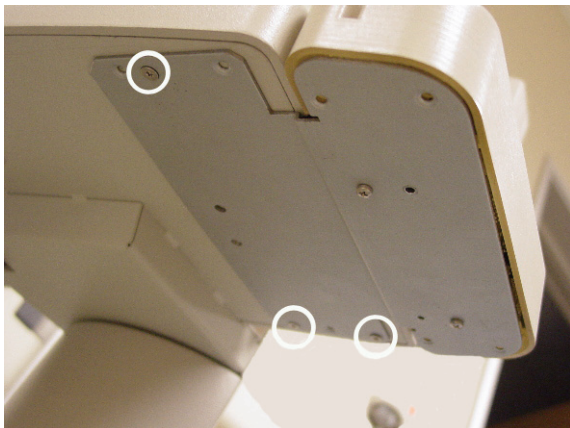

Figure 1-21. Removing the current reader, if present
9. Secure the reader bracket to the keyboard bracket using three 6-32 x 3/8 flat head Torx screws. Refer to Figure 1-21 on page 1-14.